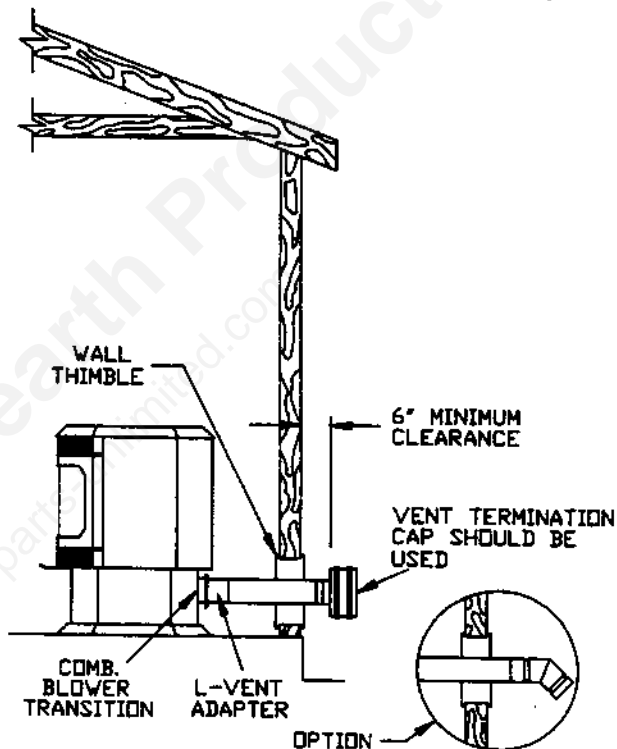

Figure 3
A. HORIZONTALLY THROUGH WALL (See Figure 3)